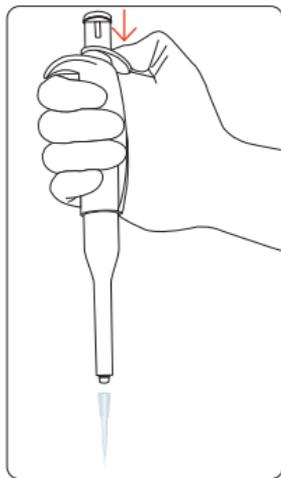

Figure 10. Tip Ejection
5. Home: Allow the push button to move up to the Rest Position. Press the tip ejector button to remove the tip. (figure 10)